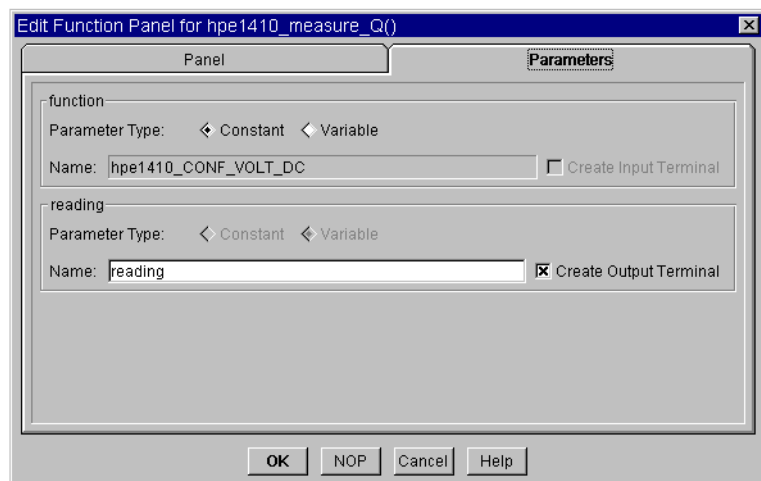

Figure 5-4. Parameter Tab of Edit Function Panel Dialog Box
- **Group name** - The name of each group is the label name of the parameter as specified in the *VXIplug&play* function panel. In Figure 5-4, function and reading are labels.